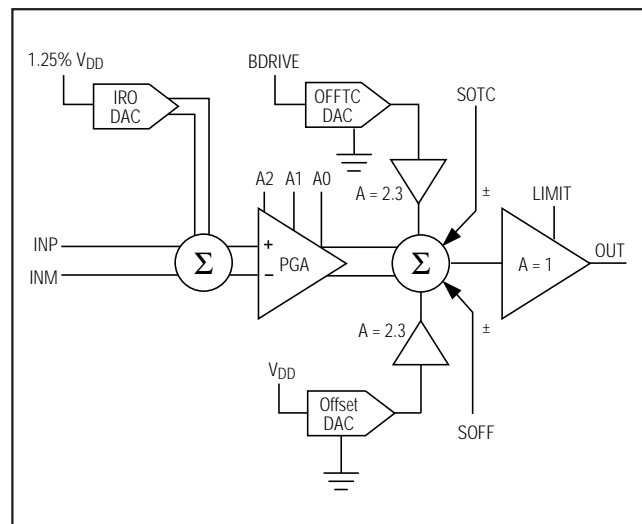

Figure 2. Signal-Path Block Diagram
$V_{BDRIVE}$  that must be added to the output summing junction to correct the error. Use the Offset TC DAC to adjust the amount of  $BDRIVE$  voltage that is added to the output summing junction (Figure 2).
- Differential to single-ended output buffer (Figure 2)